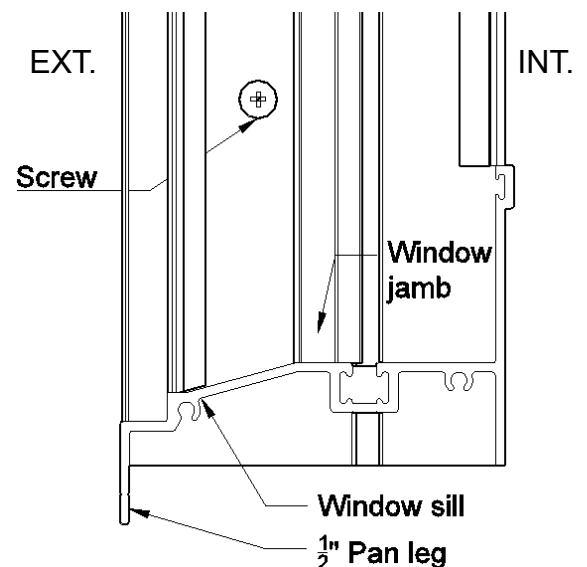

Figure 12: Side View of Jamb at Bottom
2.5 Remove the stop at the bottom of window jamb, then fasten the jamb through the installation hole on both sides (refer to figure 12), and reinstall the stops. Notice: do not over tighten the fasteners to distort the frame, and do not drill on the window sill/head to avoid water infiltration.